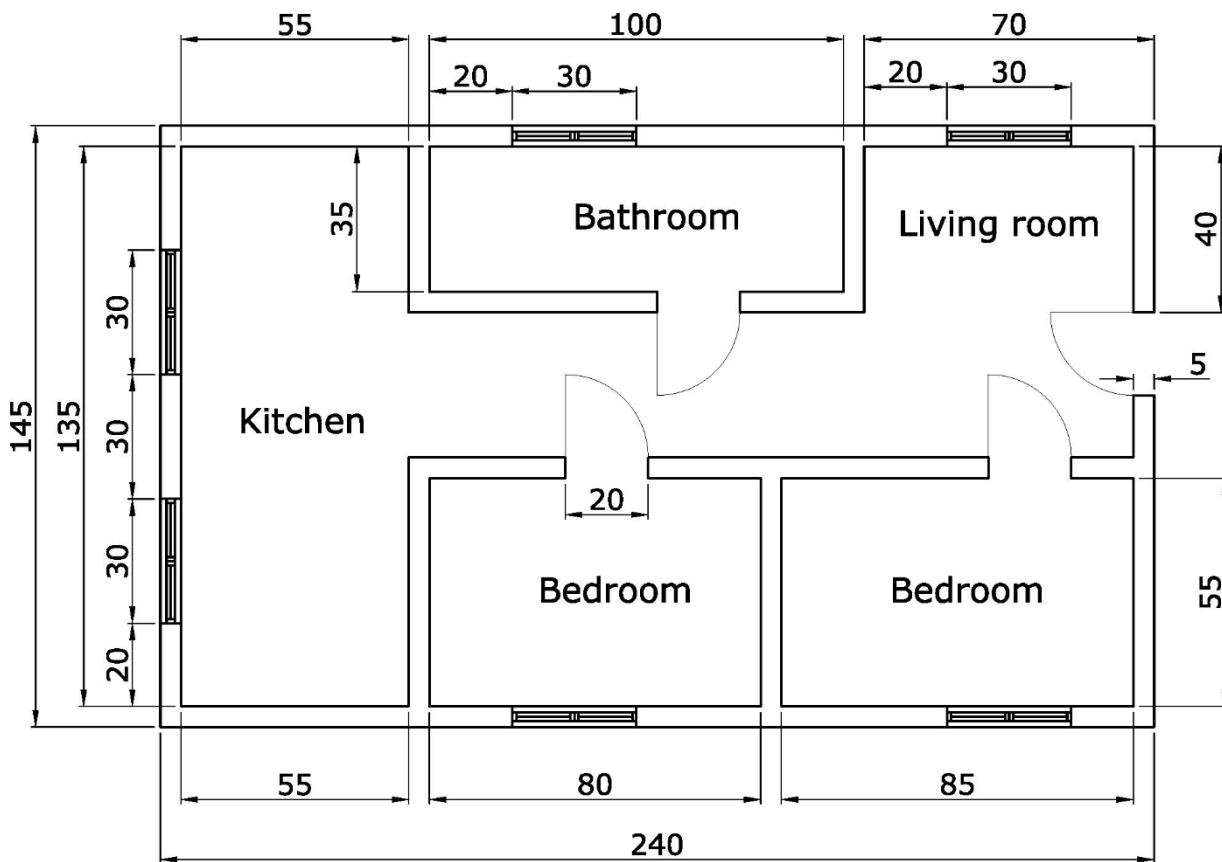
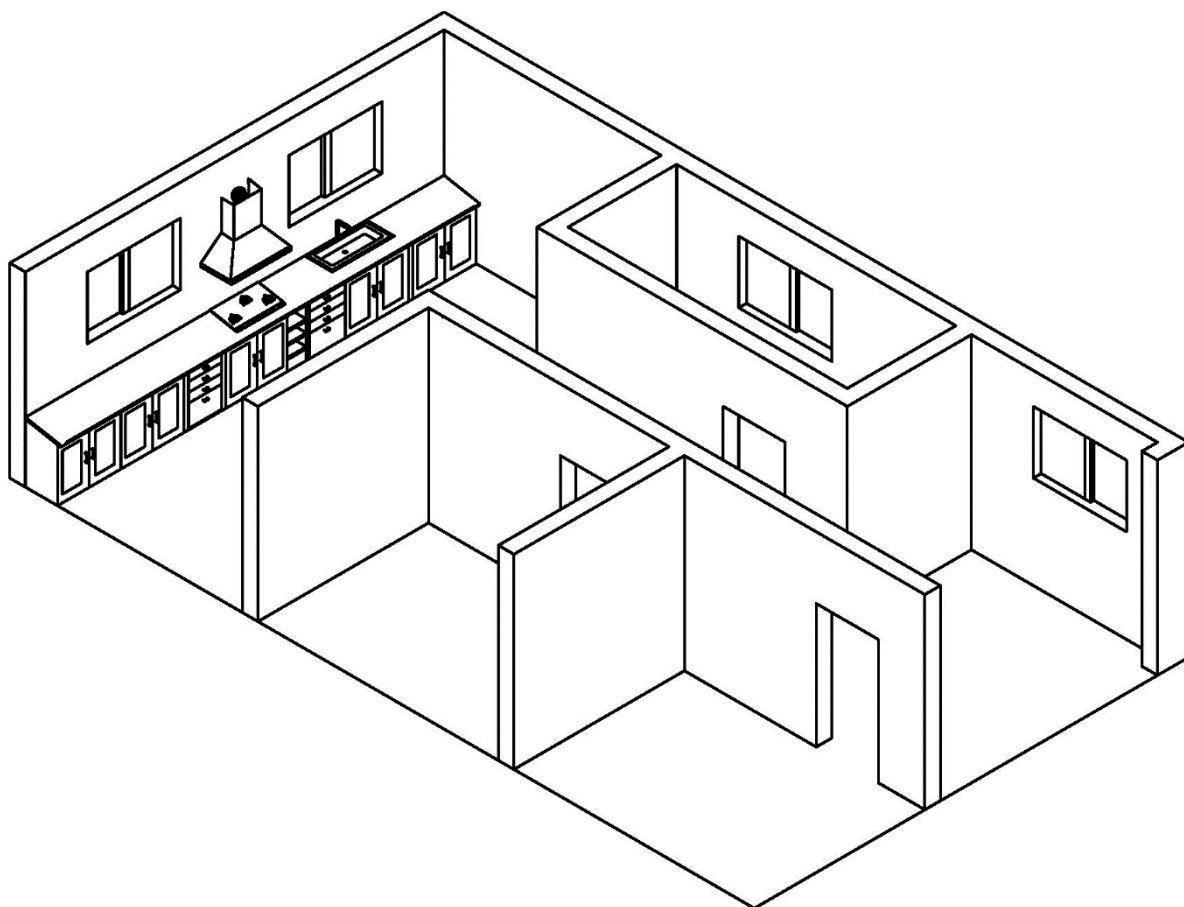

Figure 10a
Figure 10b
An architectural plan of a toy house designed for children is given in Figure 10a. An isometric projection of the toy house with a furnished kitchen is given in Figure 10b.
Using the given dimensions shown on the architectural plan of the toy house given in Figure 10a and assuming any missing dimension:
- a) Construct a planometric drawing of the toy house taking the height of all the wall being 60 mm and omitting some walls, so that the interior of the house could be visible as shown in the isometric projection in Figure 10b; (11)
- b) draw the furnishing of the kitchen; (6)
- c) draw the furnishing of **ONE** of the bedrooms; (4)
- d) render in colour your drawing to enhance its presentation. (3)